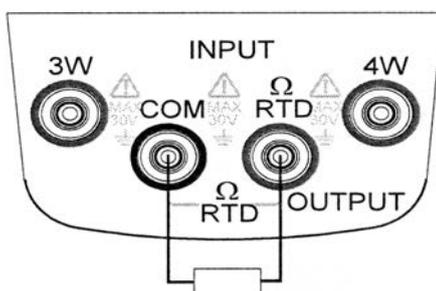

Figure 6-1:
- ⚡ 4. Insert one end of the test lead into the OUTPUT terminal of the instrument and connect the other end to the input terminal of the device under test. See Figure 6-1, 6-2 and 6-3.